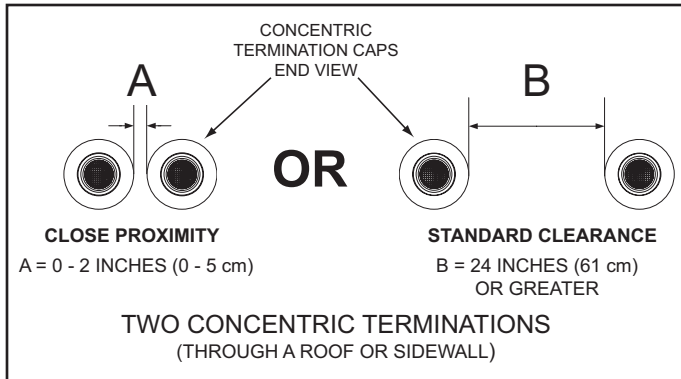
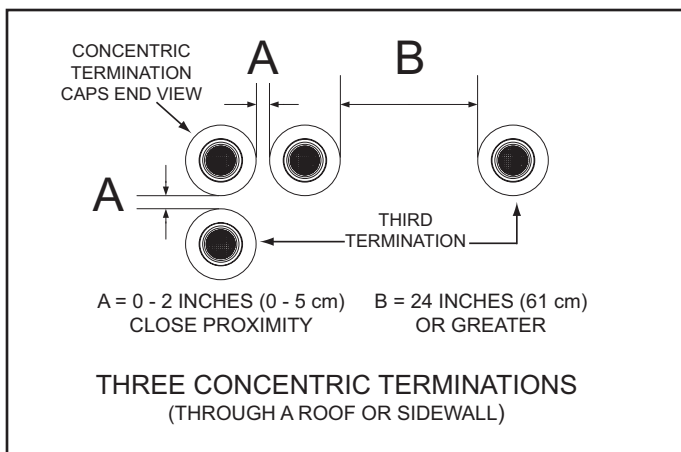
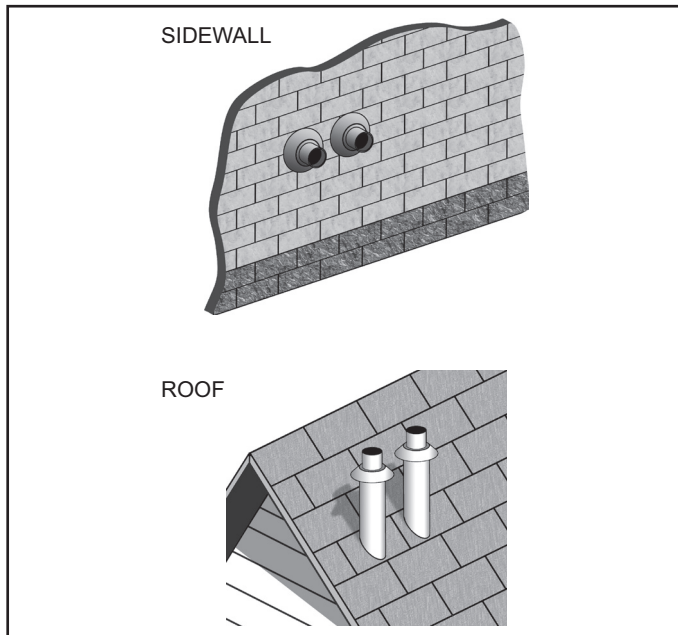

Figure 32
Figure 33
Figure 37
When installing multiple concentric terminations through a roof or through a sidewall the clearances shown in Figure 32 must be maintained.
1. The clearance between multiple termination caps must be 0 inches (touching) to a maximum of 2 inches (5 cm), dimension A - Figure 32, when installing concentric terminations in close proximity. See Figure 37 on page 31.
2. The clearance between multiple termination caps must be increased to a minimum of 24 inches (61 cm), dimension B - Figure 32, when installation in close proximity (above) is not possible. This is the standard clearance.
1. When installing three concentric terminations through a roof or through a sidewall the third termination may be installed in close proximity as indicated by dimension A in Figure 33.
2. If close proximity installation of the third termination is not possible the third termination may be installed as indicated by dimension B in Figure 33.
Two concentric terminations may be installed in close proximity as shown in Figure 37 or with standard clearances when this arrangement is not possible. See Figure 32 on page 30 for detailed information on clearances. See Figure 33 on page 30 when installing three concentric terminations.